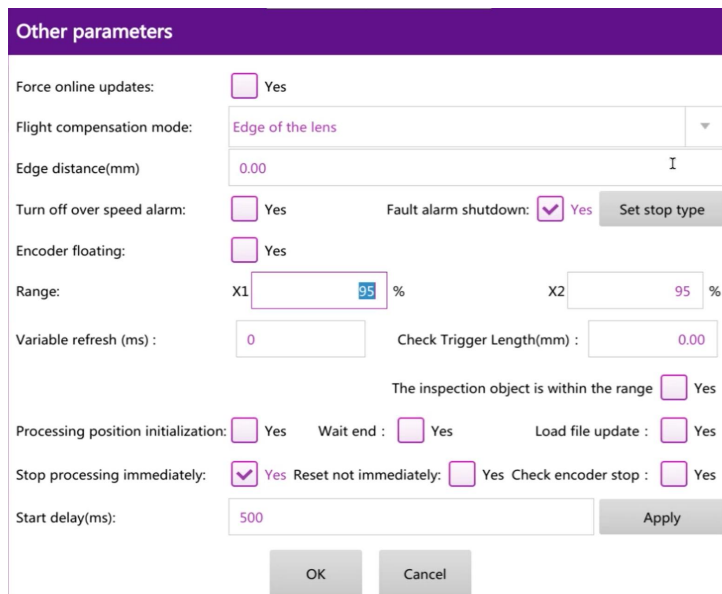

Figure 3-7
**Other parameter:**The interface is shown in Figure 3-7.